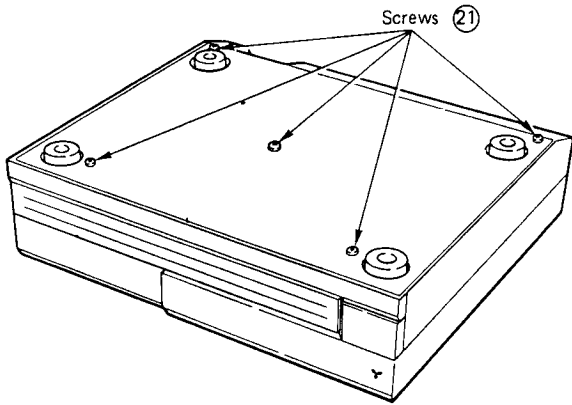

Fig. 16
- 1) As shown in Fig. 16, the bottom cover can be removed by removing the five bottom cover screws (21) .